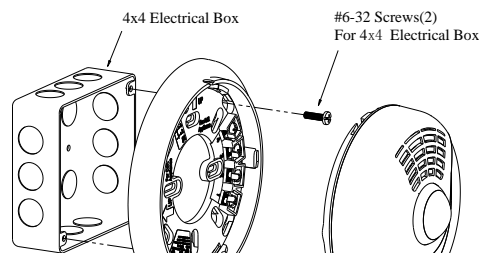

Figure 1. Base Installation
- Mount the FW900/FW901 base onto a 4x4 electrical box, see Figure 1.